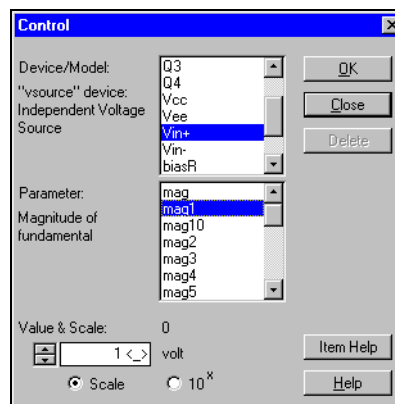

Figure 3-1 Example Control Dialog Box.
4. *Excel* will ask whether to re-establish links as shown in Figure 3-1. Choose **NO**.